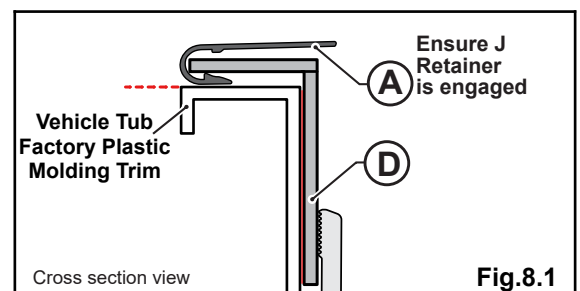

Fig. 8.1
- Attach the plastic J Retainer on front of the Tonneau Cover (A) to front lip of Front Rail (D) on Ute tub located behind the cab window. Fig 8.1 shows the cross section view.